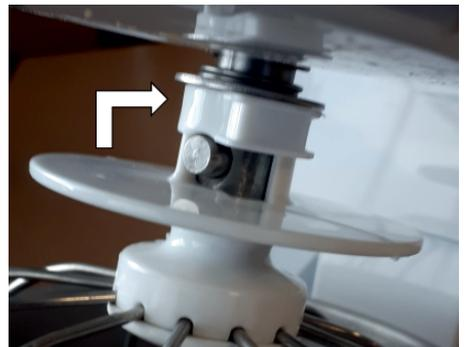

Fig. 4
1. Press the tilt button (2), the top of the mixer (1) will automatically release and lock into the tilt position.
3. Insert the desired attachment directly, until it lock into correct position – see figures 4 and 5.